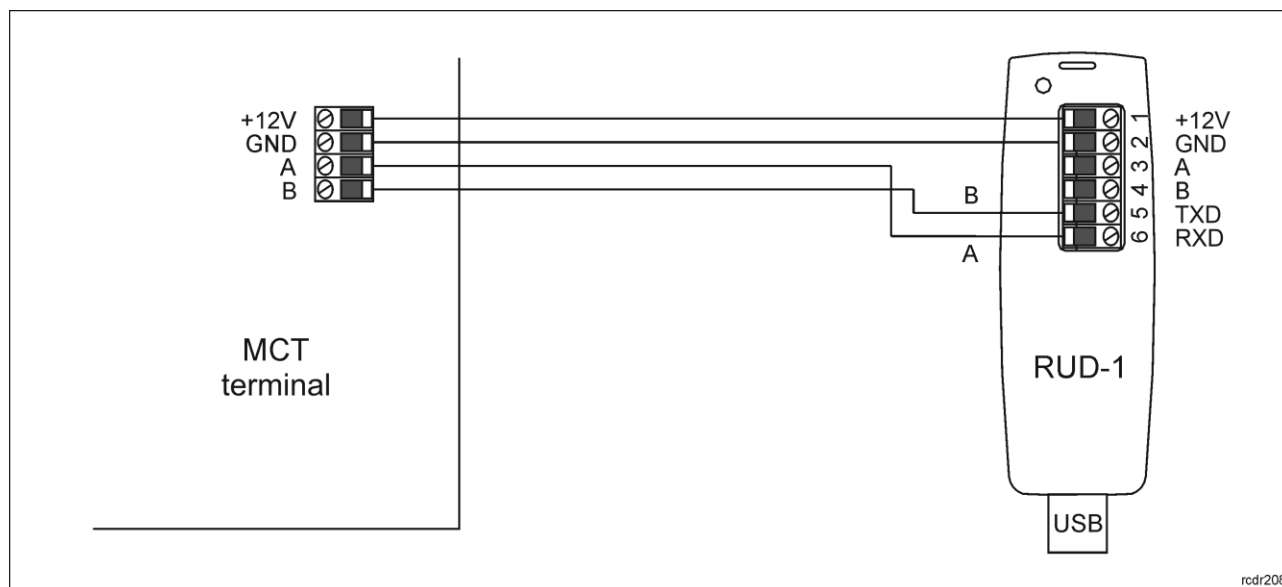

Fig. 10 Connection to RUD-1 interface (firmware update).
1. Connect the reader to RUD-1 interface (fig. 10) and connect the RUD-1 to computer's USB port.